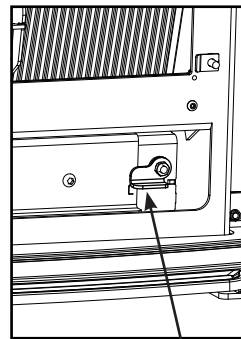

Figure 2.3 Latch
1. Remove cleanout plate assembly by pulling up on the latch located at the bottom right corner of firebox. Figure 2.3